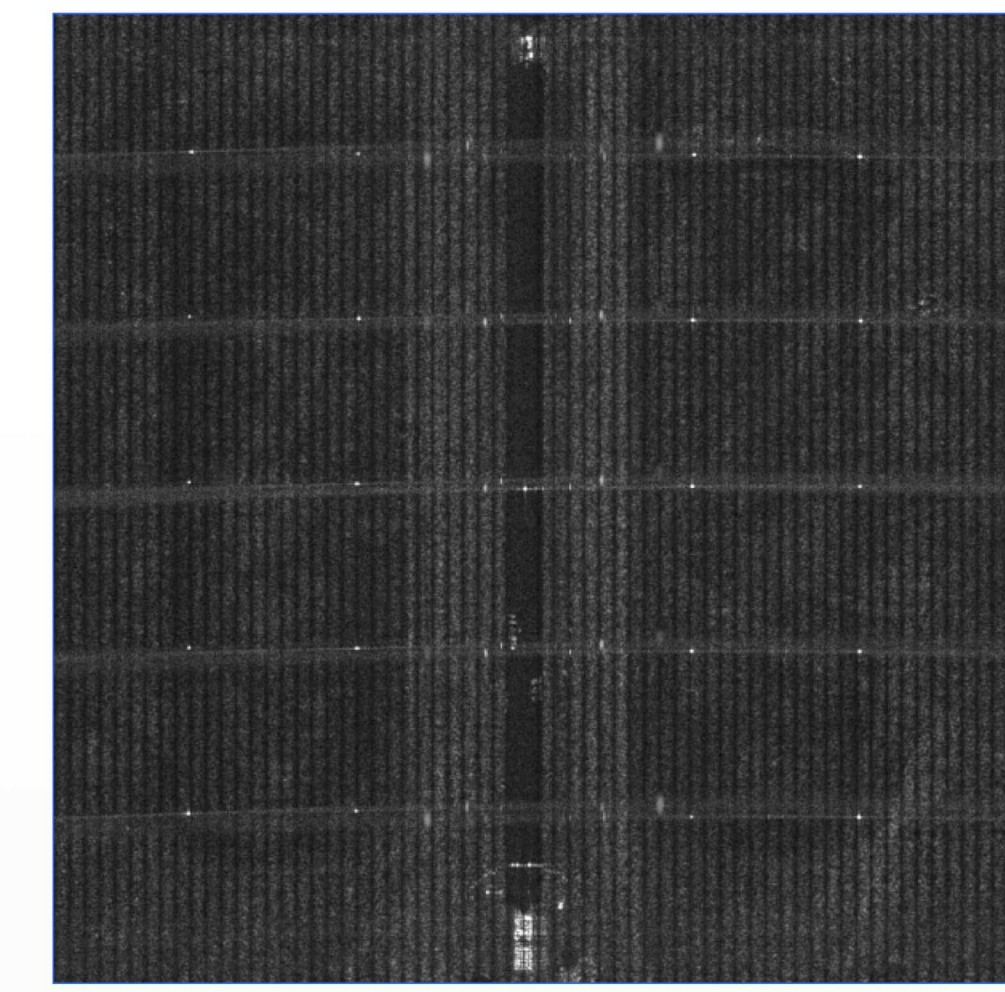

Figure 3: Difference between S1 and Intel images (scaled by a factor of 100)
- The difference image (Figure 3) shows